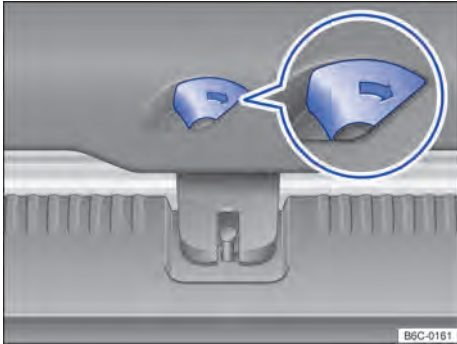

Fig. 62 In the luggage compartment: unlock the boot lid.
- Move the unlocking lever in the direction indicated by the arrow → Fig. 62 to unlock the boot lid.